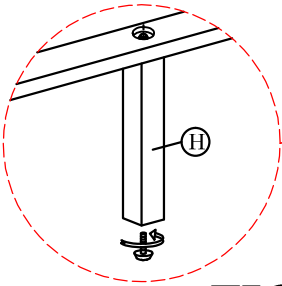

FIG.6
STEP 6: Attach Slats with Support legs (G&H) to the Side Rail (F) using the provided hardware as shown on FIG.6